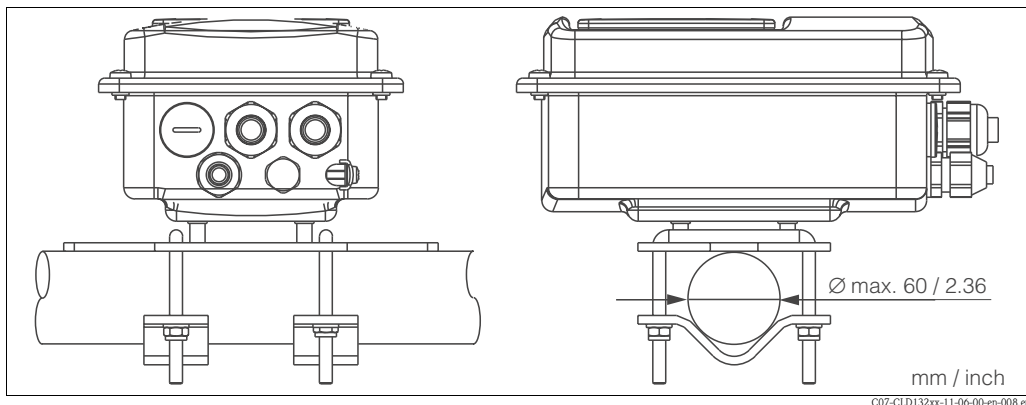

Fig. 13: Post mounting of CLD132 separate version
3. Use the brackets to install the Smartec S on the post or pipe (Fig. 13).